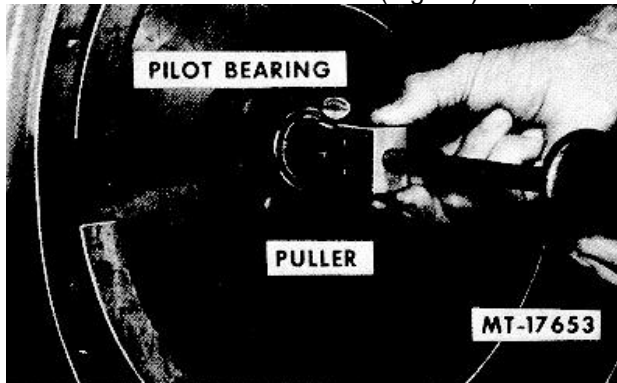

Fig. 35 Clutch Pilot Bearing Removal
37. Remove clutch pilot bearing using SE-1746 Puller with a slide hammer (Fig. 35).